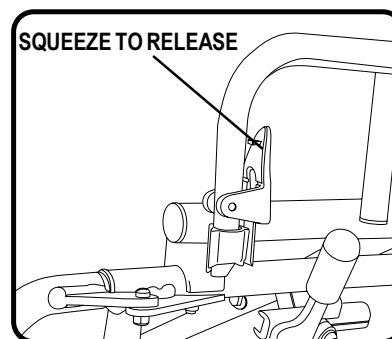

Figure 7. Flip-up Armrest Latch
4. If necessary, flip up an armrest. See figure 7.